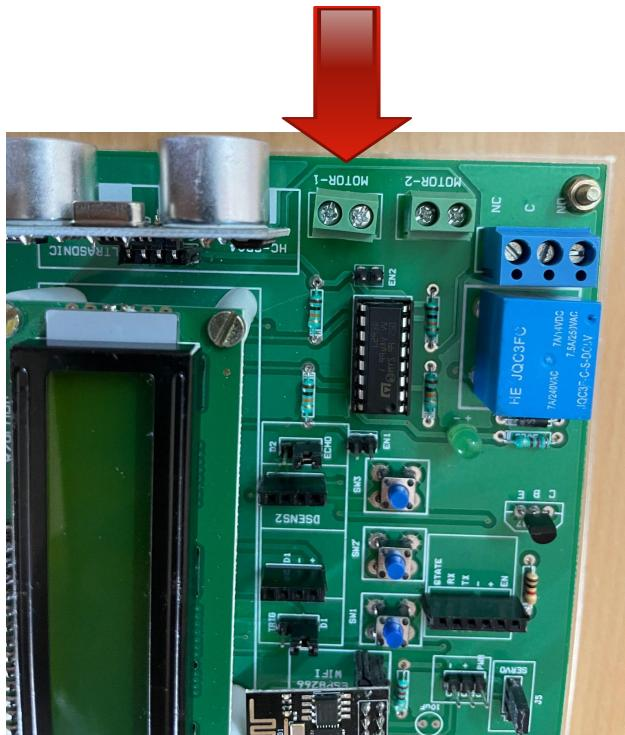
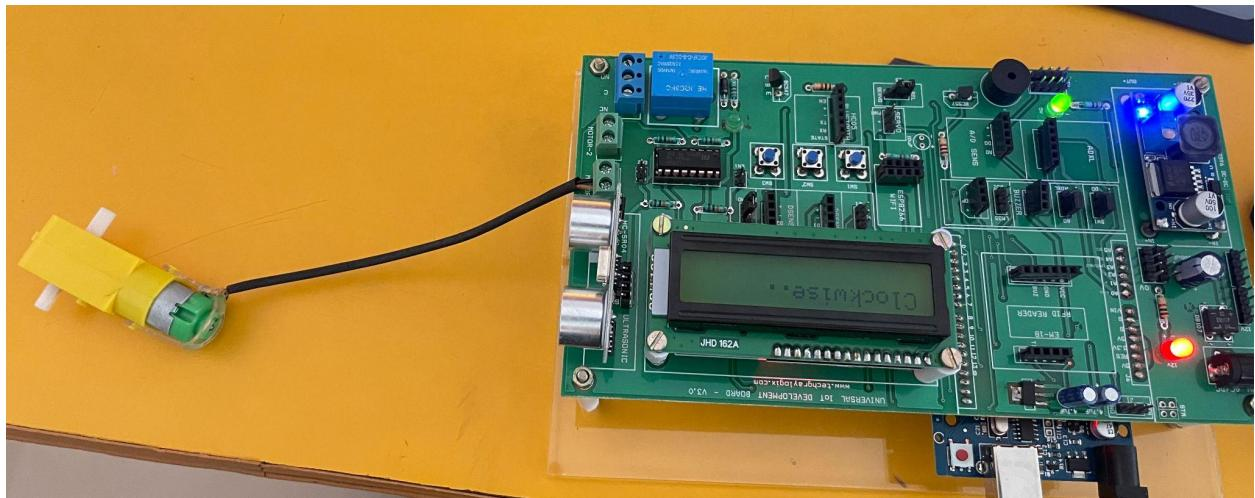

Figure 1: Motor slots in Universal Development Kit
Figure 2: DC motor connection
1. Connect DC motor to motor 1 (shown in figure 1) slot of arduino universal development kit as shown in figure 2.